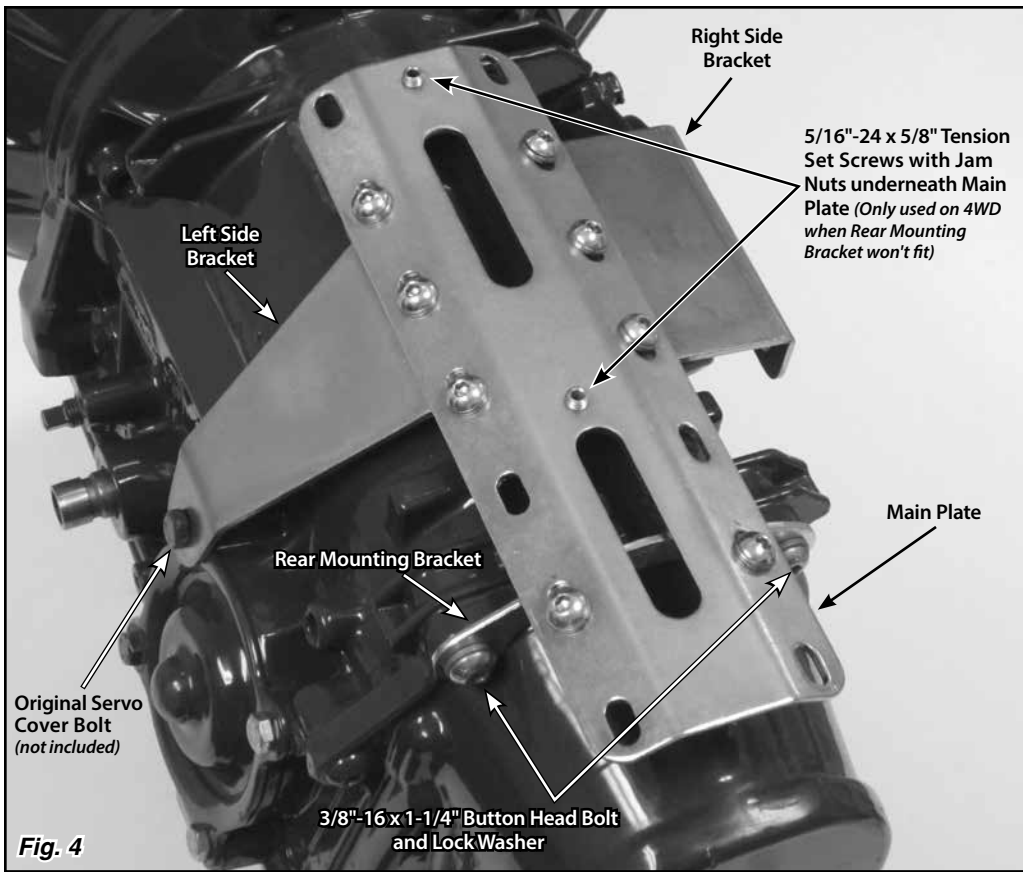

Fig. 4
If you have a four wheel drive application that will not accept the rear mounting bracket, thread the 5/16"-24 x 5/8" tension set screws into the tension set screw holes at the front and in the center of the shifter main plate. Install the jam nuts onto the bottom end of the tension set screws, underneath the main plate. **Fig. 4**
Step 6: Set the mounting bracket assembly into place on top of the transmission. **Fig. 4** Attach the mounting bracket assembly to the transmission by first re-installing the driver and passenger side servo cover bolts you removed, through the side brackets and into the transmission.
Step 7: Tighten all of the bolts on the left, right, and rear (if applicable) mounting brackets. **Fig. 4**